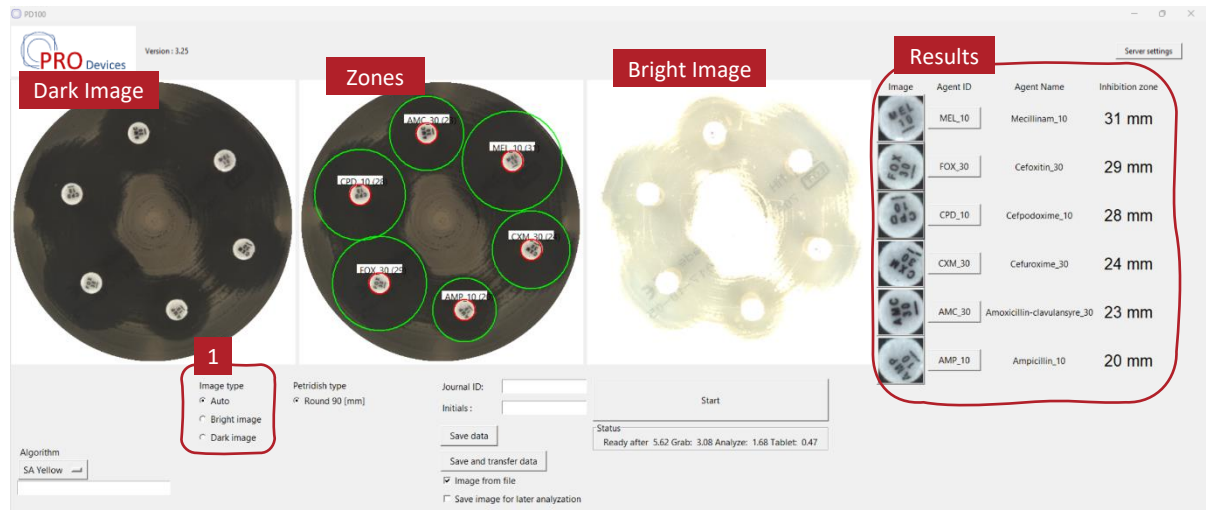

Figure 6 – PD-100 with results
1. Once the analysis is done, the program will show the following screen, see Figure 6.
2. The program will automatically show 3 pictures, a Dark Image, the Zones, and a Bright Image, see Figure 6.
3. The results are shown to the right on the screen, see Figure 6. The results will be shown with the largest found zone first and consists of:
13. If the zones are not found satisfactory, please try another ALGORITHM, see Figure 5, choose either the Dark or Bright Image, see **1** in Figure 6 or turn the plate and read again. For further instruction see chapter 8 Trouble shooting – PD-100 program.
2. After you have clicked the START button, see **2** in Figure 20, or pressed **F5** (some PC's Fn+F5), the results will appear, see Figure 6.